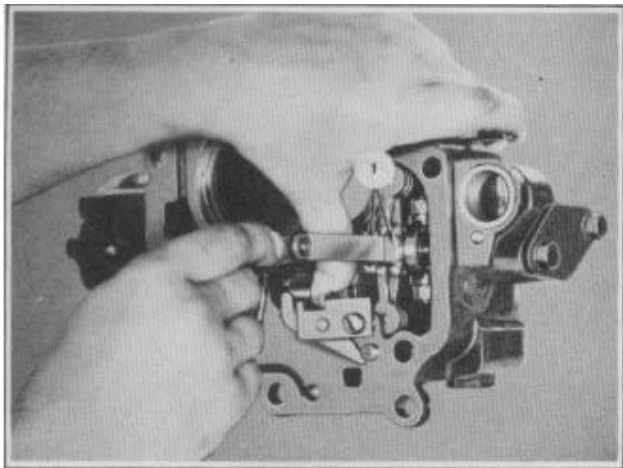

FIGURE 40
**NOTE:** If a new governor is installed it is necessary to check the clearance between the governor end brackets when the governor valve is in its full open position and the governor control lever is in its full forward position, Figure 40. This clearance should be approximately .010" minimum.